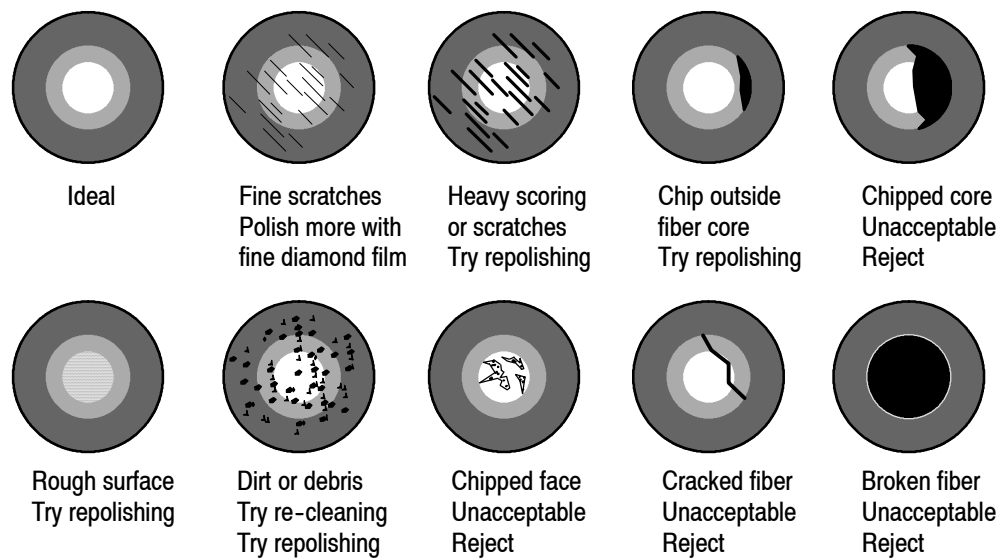

Figure 14
1. Using the microscope, inspect the fiber. If possible, place the far end of the fiber near a bright light. Compare the fiber end to the examples shown in Figure 14, and take any recommended action.